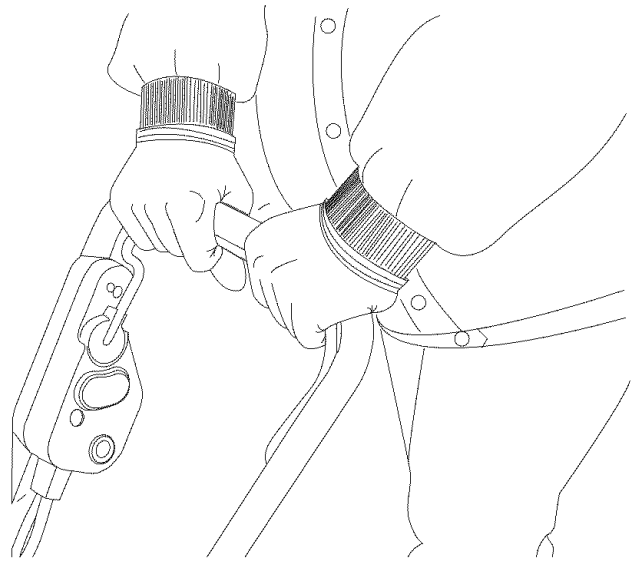

Fig. 5
4. Hold the bail and begin operating the unit (Fig. 5).